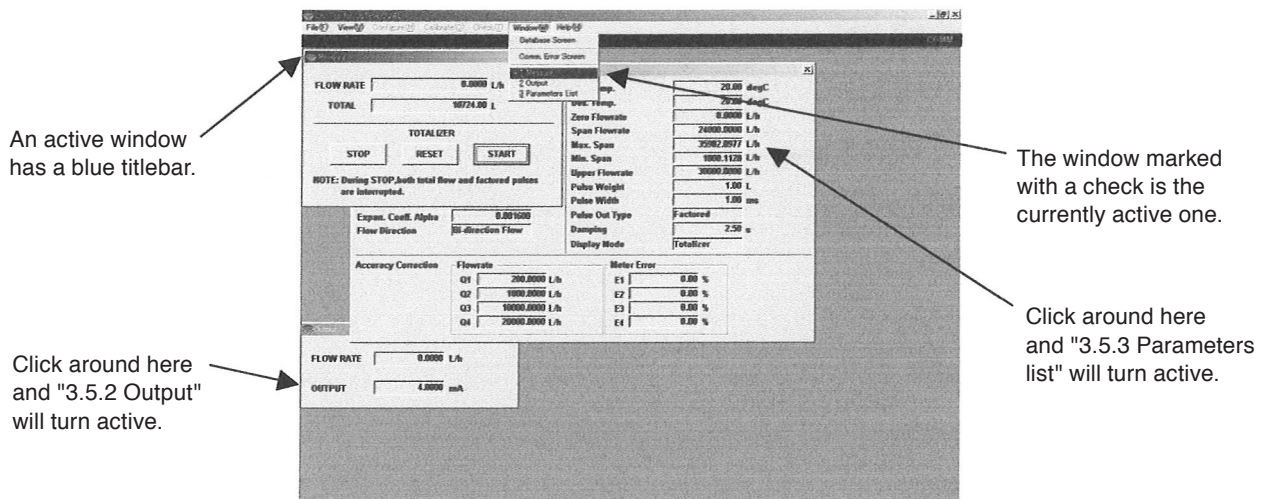

Fig.56
- ① Suppose three message boxes exist on the screen as shown in Fig. 56, for example, clicking "Window" at the menu allows the names of message boxes currently present on the screen with active window(s) marked with a check.
- ② At this point, clicking on the name of the window you want to activate will make that window indicated active.
- ③ There is another way to switch a window from active to inactive, and vice versa: click on any part in the message box and the window will turn active. See Fig. 56.